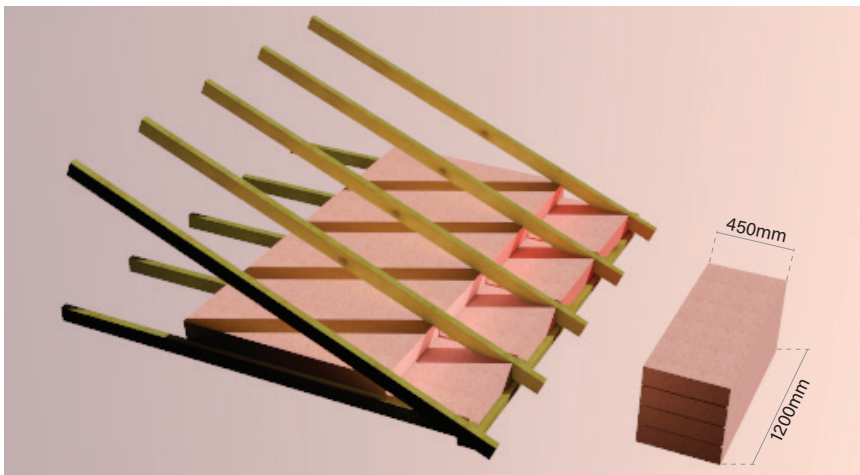

Figure 1
- Perimeter batts are installed along the edge of the ceiling at the eaves, perpendicular to the ceiling batts (Fig. 1)